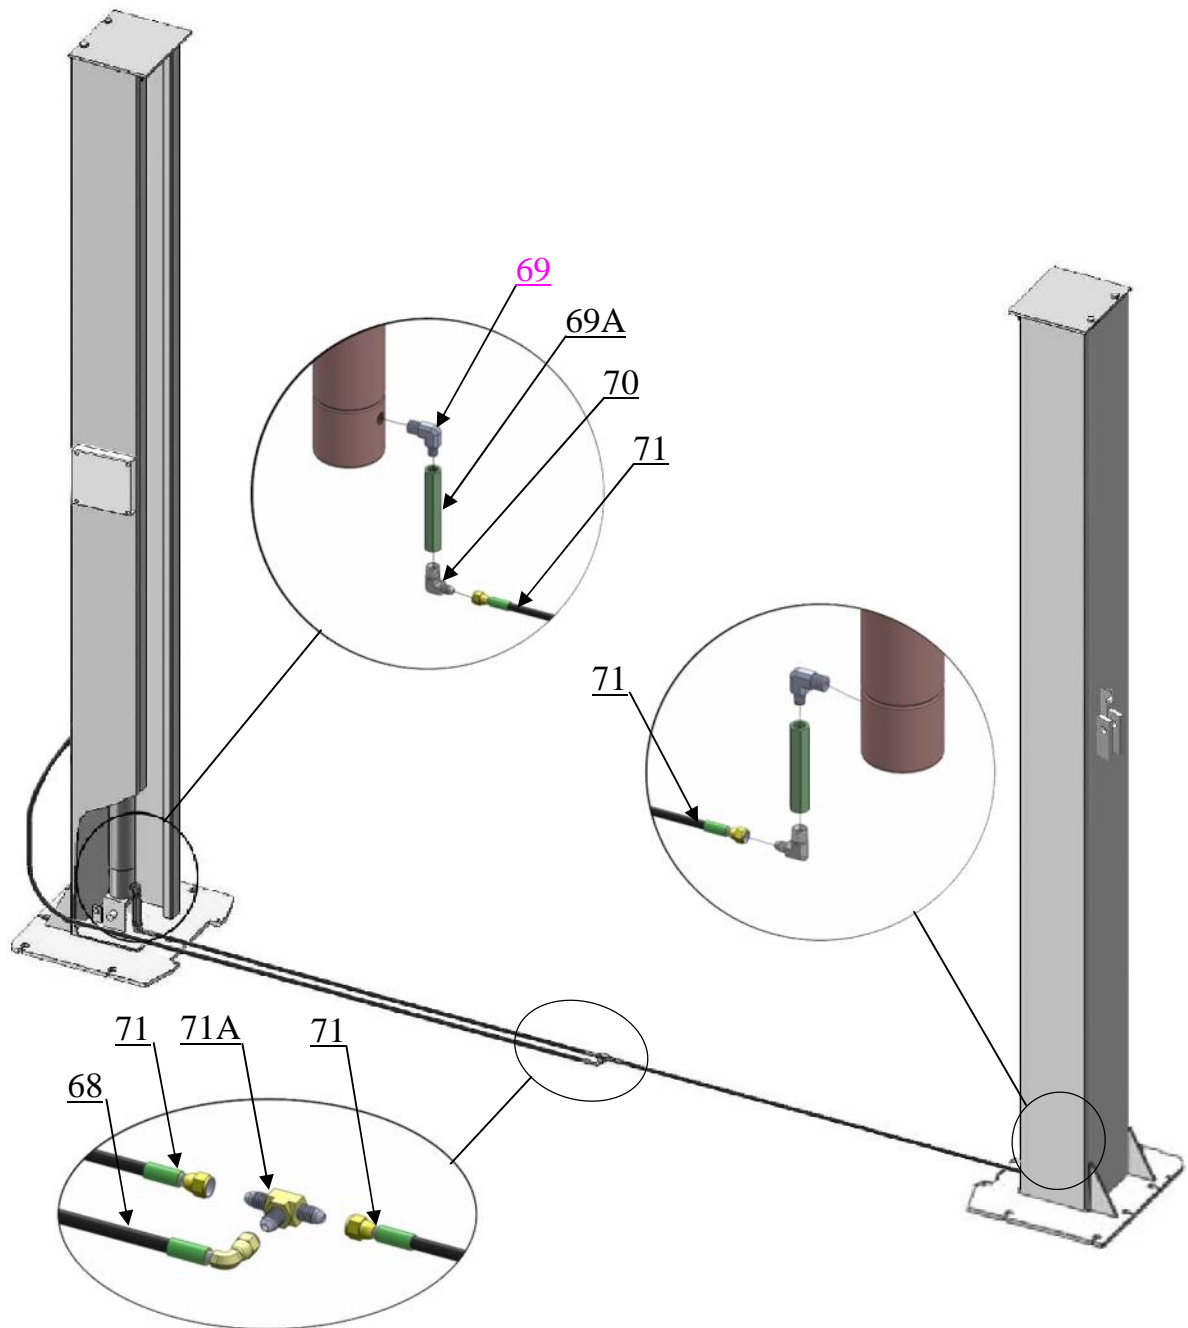

Fig. 20
J. Assembly oil hose assy. (See Fig. 20).